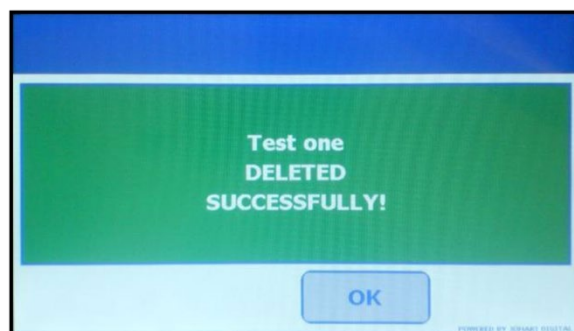

Figure V-16: Program Deleted Successfully (Assay Name “Test one”)
4. Once the program is deleted, the FP-24 5G displays “{ASSAY NAME} DELETED SUCCESSFULLY!”. \(Figure V-16\)